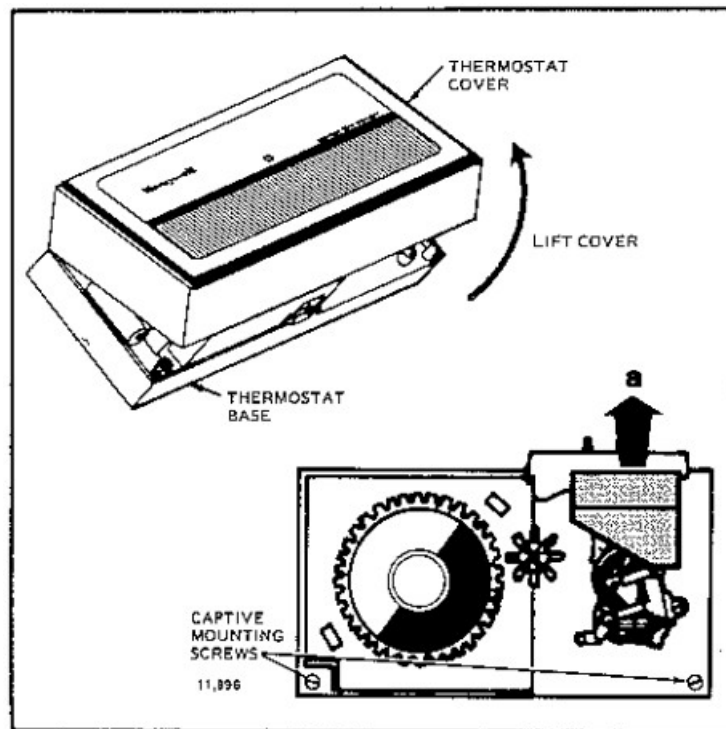

Fig. 1—Unpack thermostat.
- Handle new thermostat carefully; rough handling may interfere with its accuracy. Before unpacking, refer to Fig. 1.